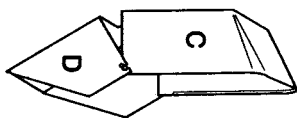

Figure 2 - Clip face shield halves together
- ◆ Clip the face shield halves "C" and "D" together. See Figure 2.